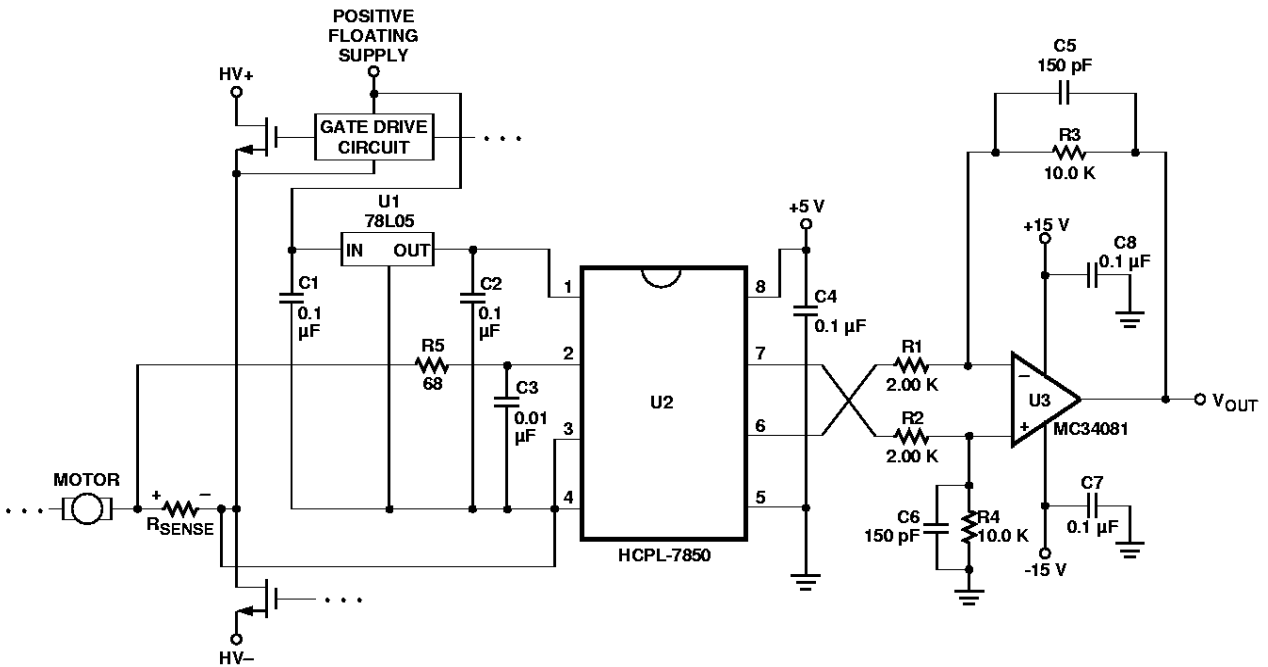

Figure 24. Recommended Application Circuit.
- CMR (also known as IMR or Isolation Mode Rejection) specifies the minimum rate of rise of a common mode signal applied across the isolation boundary at which small output perturbations begin to occur. These output perturbations can occur with both the rising and falling edges of the common mode waveform and may be of either polarity. A CMR failure is defined as a perturbation exceeding 200 mV at the output of the recommended application circuit (Figure 24). See Applications section for more information on CMR.
The recommended application circuit is shown in Figure 24. A floating power supply (which in many applications could be the same supply that is used to drive the high-side power transistor) is regulated to 5 V using a simple three-terminal voltage regulator (U1). The voltage from the current sensing resistor, or shunt (R_{sense}), is applied to the input of the HCPL-7850 through an RC anti-aliasing filter (R5, C3). And finally, the differential output of the isolation amplifier is converted to a ground-referenced
As shown in Figure 24, a 0.1 μF bypass capacitor (C2, C4) should be located as close as possible to the input and output power supply pins of the HCPL-7850. The bypass capacitors are required because of the high-speed digital nature of the signals inside the isolation amplifier. A 0.01 μF bypass capacitor (C3) is also recommended at the input pin(s) due to the switched-capacitor nature of the input circuit. The input bypass capacitor should be at least 1000 pF to maintain gain accuracy of the isolation amplifier.
The recommended method for connecting the isolation amplifier to the shunt resistor is shown in Figure 24. Pin 2 ($V_{\text{IN}+}$) is connected to the positive terminal of the shunt resistor, while pin 3 ($V_{\text{IN}-}$) is shorted to pin 4 (GND1), with the power-supply return path functioning as the sense line to the negative terminal of the current shunt. This allows a single pair of wires or PC board traces to connect the isolation amplifier circuit to the shunt resistor. In some applications, however, supply currents flowing through the power-supply return path may cause offset or noise problems. In this case, better performance may be obtained by connecting pin 3 to the negative terminal of the shunt resistor separate from the power supply return path. When connected this way, both input pins should be bypassed. Whether two or three wires are used, it is recommended that twisted-pair wire or very close PC board traces be used to connect the current shunt to the isolation amplifier circuit to minimize electromagnetic interference to the sense signal.
The recommended application circuit (Figure 24) includes a post-amplifier circuit that serves three functions: to reference the output signal to the desired level (usually ground), to amplify the signal to appropriate levels, and to help filter output noise. The particular op-amp used in the post-amp is not critical; however, it should have low enough offset and high enough bandwidth and slew rate so that it does not adversely affect circuit performance. The offset of the op-amp should be low relative to
To maintain overall circuit bandwidth, the post-amplifier circuit should have a bandwidth at least twice the minimum bandwidth of the isolation amplifier, or about 200 kHz. To obtain a bandwidth of 200 kHz with a gain of 5, the op-amp should have a gain-bandwidth greater than 1 MHz. The post-amplifier circuit includes a pair of capacitors (C5 and C6) that form a single-pole low-pass filter. These capacitors allow the bandwidth of the post-amp to be adjusted independently of the gain and are useful for reducing the output noise from the isolation amplifier (doubling the capacitor values halves the circuit bandwidth). The component values shown in Figure 24 form a differential amplifier with a gain of 5 and a cutoff frequency of approximately 100 kHz, and were chosen as a compromise between low noise and fast response times. The overall recommended application circuit has a bandwidth of 66 kHz, a rise time of 5.2 μs and a delay to 90% of 8.5 μs .